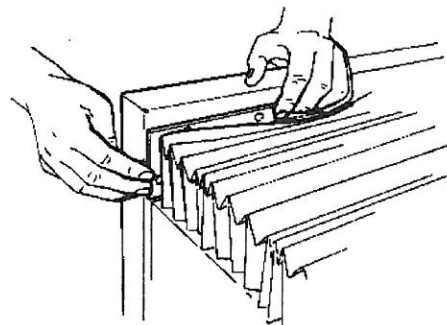

FIG. 3
5. Attach the outer end of each bellows to the Grinder leg panel. See FIG. 3. Use six bolts, and hex nuts, at each end. The bolt heads go on the bellows side of the brackets.